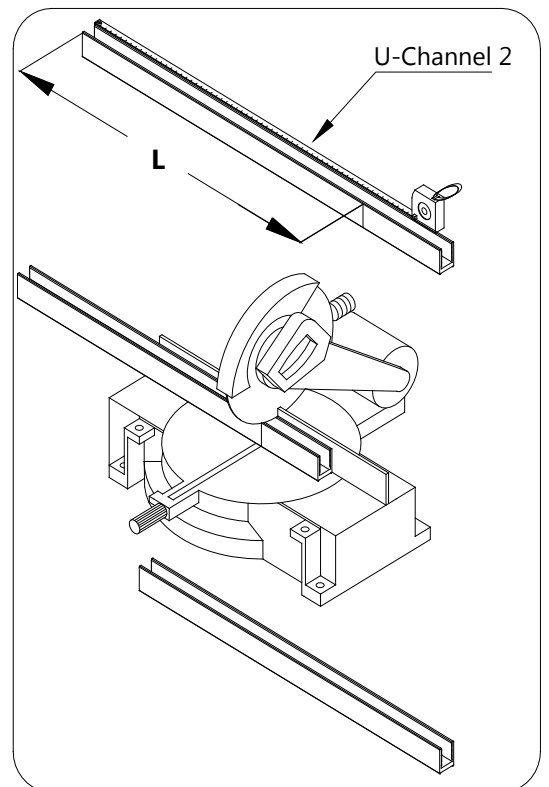

Fig 14
11. Cut the bottom **U-channel 2 (#29)** to **24"** (see note** below). (Fig 14)
****If the wall is out-of-plumb at the bottom, measure that dimension as (A) and add it to the length of the U-channel (+1/4" max):**